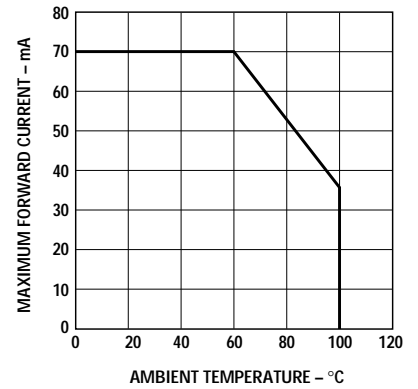

Figure 4. Maximum forward current vs. ambient temperature. Derated based on $T_{JMAX} = 125^{\circ}C$, $R_{\theta JA} = 300^{\circ}C/W$.
1. Derate linearly as shown in figure 4.